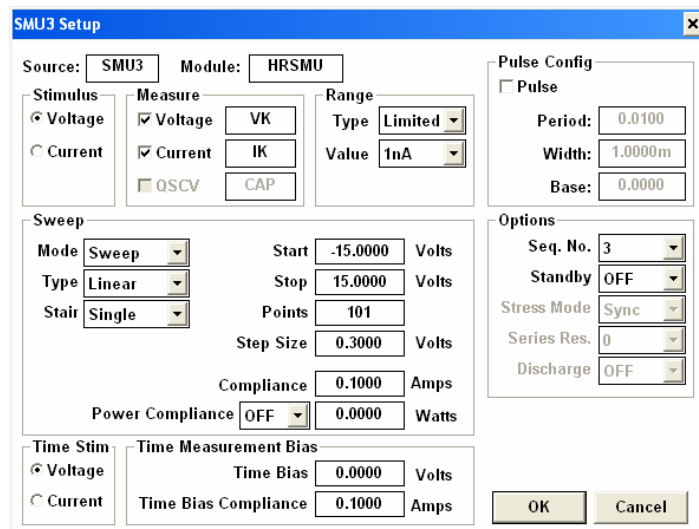

Figure 51: Diode CV SMU3 Set up
5. To sweep the value of voltage click on SMU3 on the setup editor as shown in figure 51